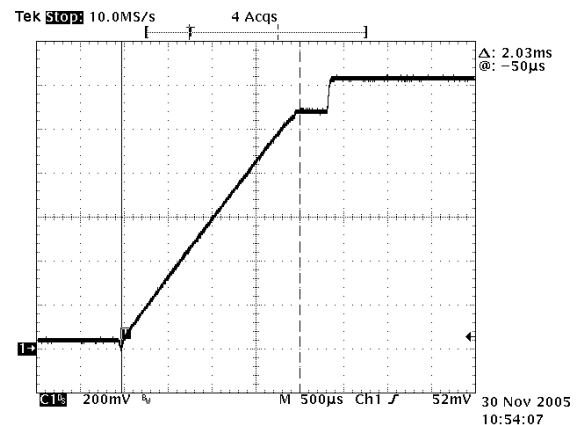

Figure 33. VR11 Startup
The controller supports two different startup routines. An AMD ramp to the initial VID code, or a VR11 Ramp to the 1.1 V VID code, with a pause to capture the VID code then resume ramping to target value based on an internal slew rate limit. See Figures 33 and 34. The controller is designed to regulate to the voltage on the SS pin until it reaches the internal DAC voltage. The soft-start cap sets the initial ramp rate using a typical 5.0 µA current. The typical value to use for the soft-start cap (SS) is 0.01 µF. This results in a ramp time to 1.1 V of 2.2 ms based on equation 1.